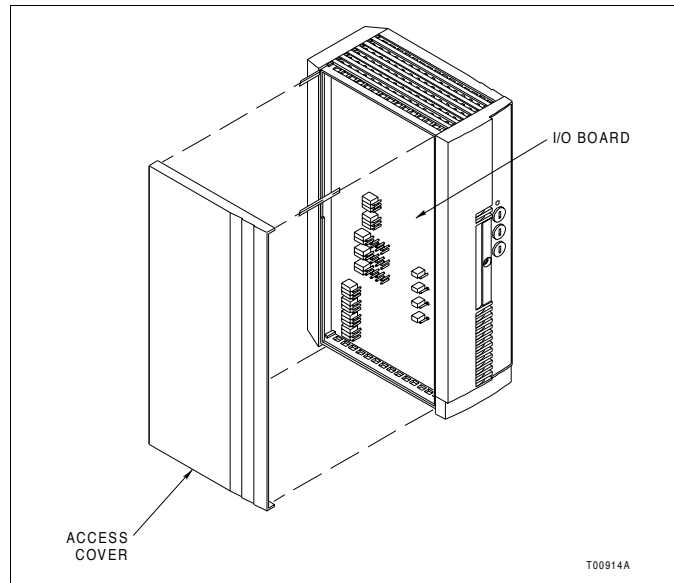

Figure PR32-1. Configuration Jumper Access
- ☐ 1. Remove the access cover from the left side of the I/O module (Fig. PR32-1).